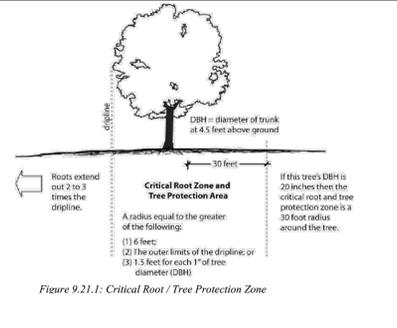

Figure 9.21.1: Critical Root / Tree Protection Area
- CRITICAL ROOT PROTECTION ZONE FOR TREES SHALL BE A RADIUS SHALL BE EQUAL TO THE GREATER OF THE FOLLOWING: 6 FT, THE OUTER LIMITS OF THE DRIPLINE, 1.5 FT PER 1 INCH OF TREE DIAMETER (DBH). SEE FIGURE 9.21.1 THIS SHEET.